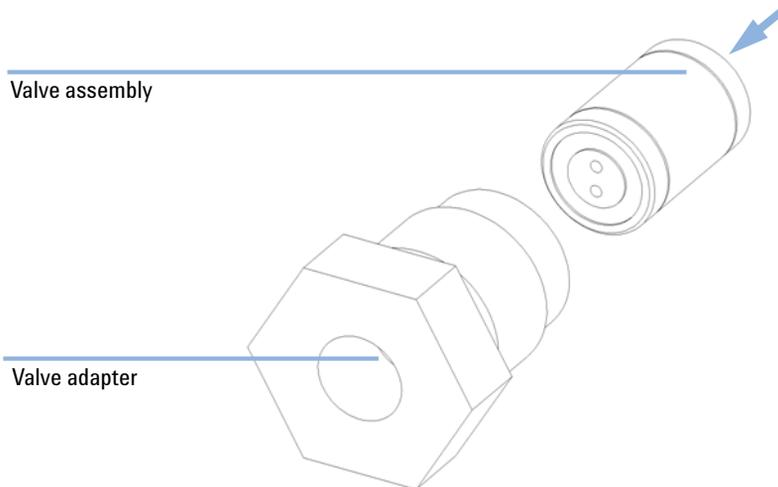

Figure 24 Ball Valve Parts
- 2 Insert a new valve assembly into the valve adapter. The arrow on Figure 24 on page 117 indicates the flow direction. Make sure the valve assembly is fully inserted into the valve adapter.